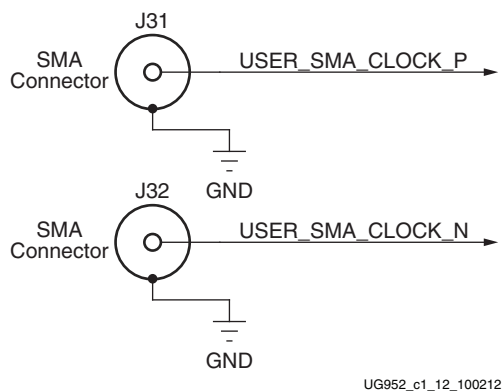

Figure 1-12: User SMA Clock Source
An external high-precision clock signal can be provided to the FPGA bank 15 by connecting differential clock signals through the onboard 50Ω SMA connectors J31 (P) and J32 (N). The differential clock signal names are USER\_SMA\_CLOCK\_P and USER\_SMA\_CLOCK\_N, which are connected to FPGA U1 pins J23 and H23 respectively. The user-provided differential clock circuit is shown in Figure 1-12.